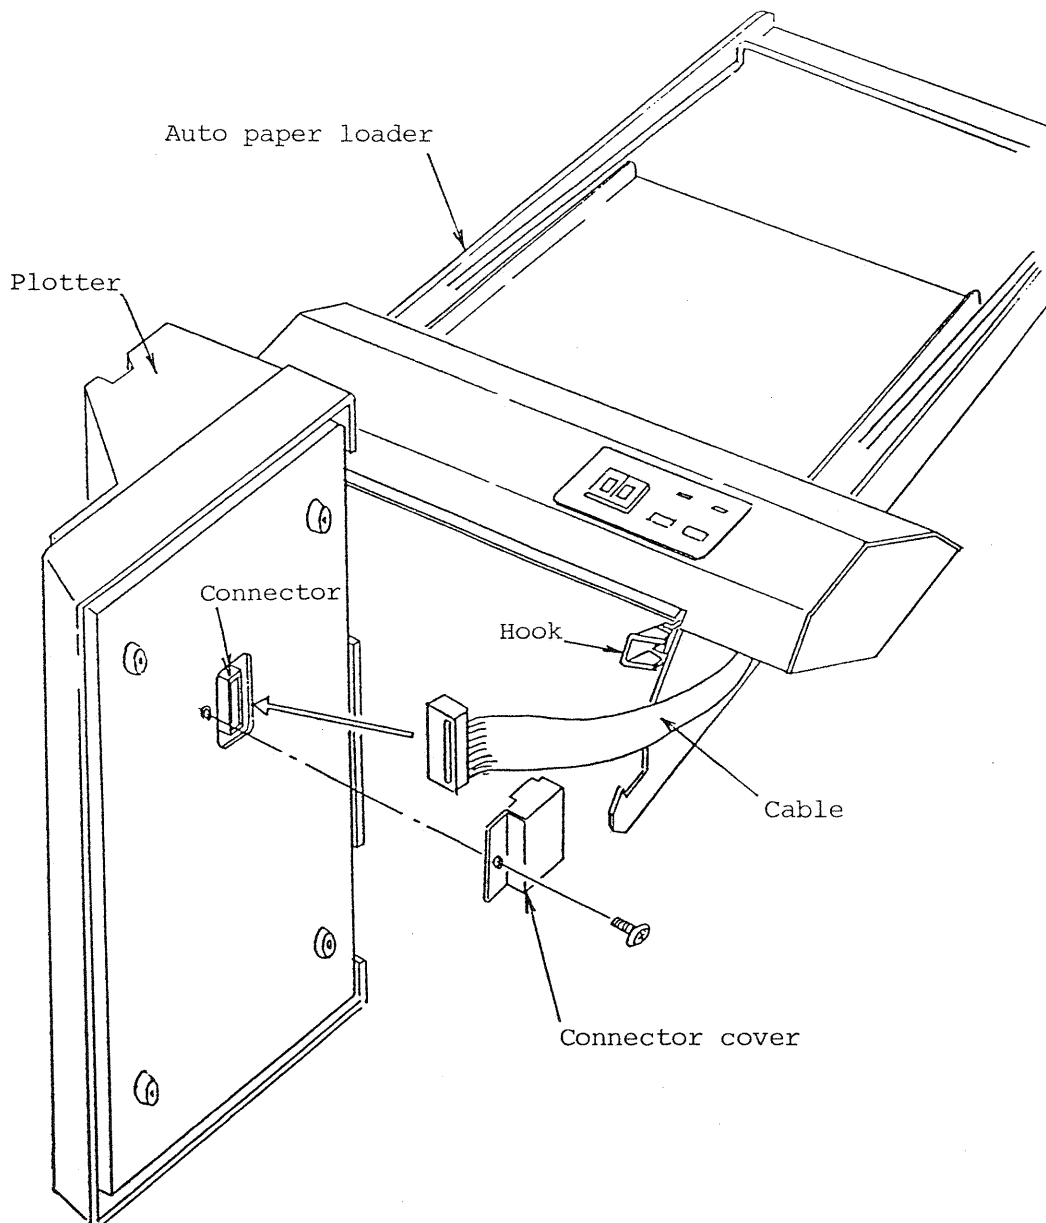

Fig. 4-13 Attachment
- (a) First, turn the plotter upside down and remove the connector cover from the bottom (Fig. 4-13).